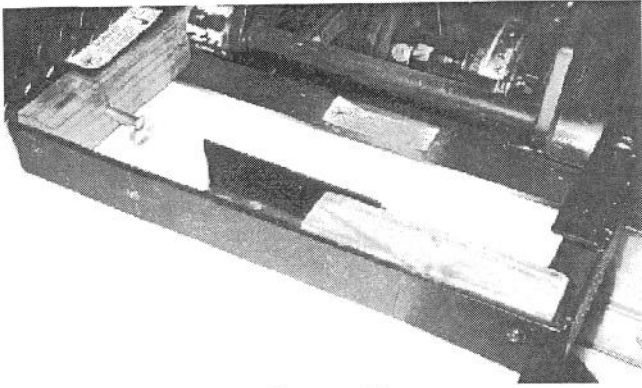

Figure 15
7. Rotate safety blocks 90° in channel and secure to ends of lift frame with retaining pins (Fig. 15).